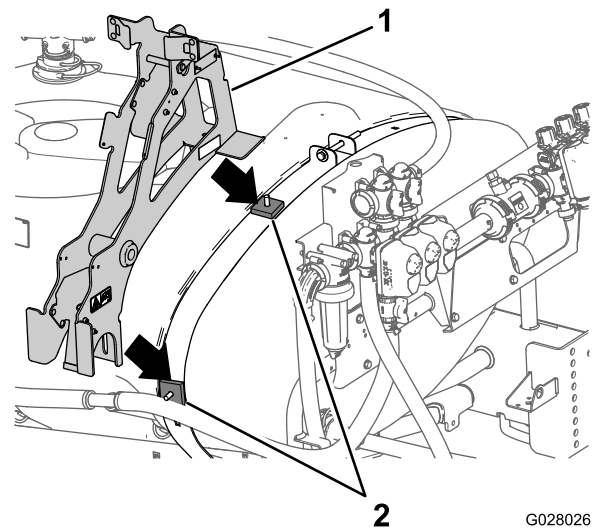

Figure 3
6. Install the main-support frame over the square spacers and carriage bolts as shown in Figure 3.
5. Mount 2 square spacers over the previously installed carriage bolts (Figure 3).